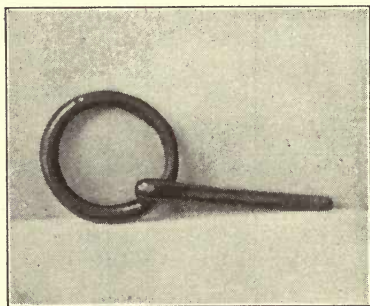

FIG. 46. RING BOLT.
7. Insert the ring thru the eye and weld the ring. Fig. 46 shows the completed ring bolt.